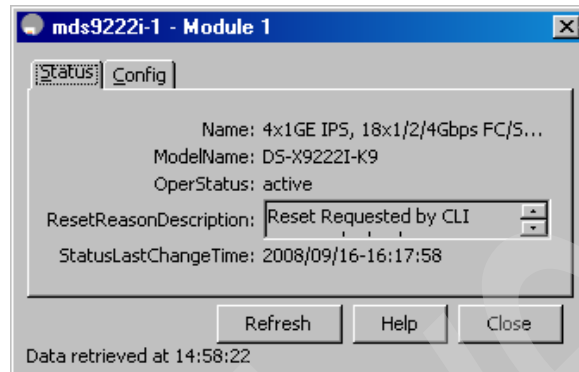
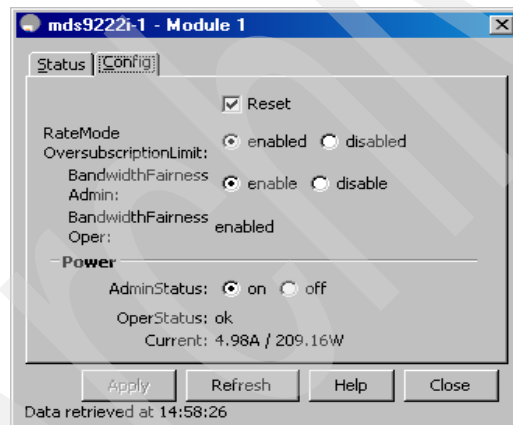

Figure 2-8 Check the status of the line card
Figure 2-9 Configure the line card
1. Check the status and configure a line card as shown in Figure 2-8 and in Figure 2-9.